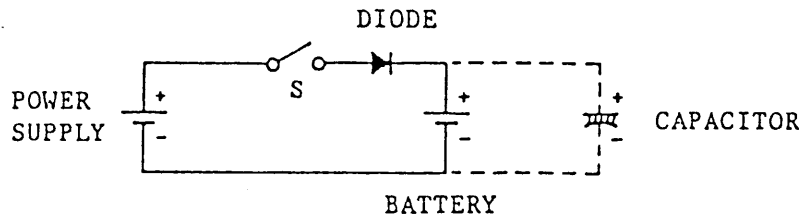

Figure 4-18
2. *If the output voltage of power supply is lower than the battery voltage or if the power switch is off, a current of several hundreds milliamperes flows from the battery into the power supply. If this current is not allowable, connect a diode in series with the battery as shown in Figure 4-18.*